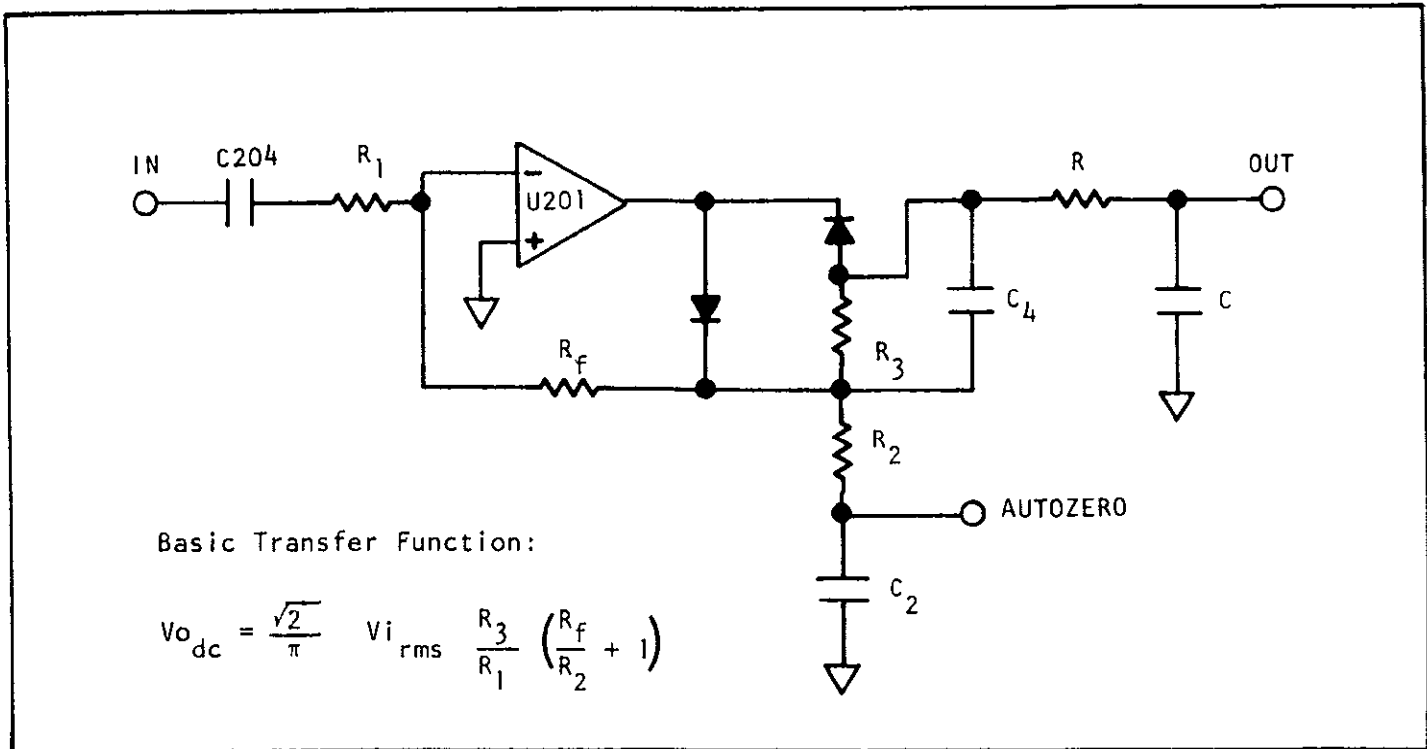

FIGURE 5-4. Simplified Schematic of AC/DC Converter.
1) The basic transfer function of the AC/DC converter is as shown on the simplified schematic (Figure 5-4). The resistor values were selected so the $1V_{ACrms} \rightarrow -1V_{DC}$. Above 3 volts, feedback resistance (R_f) is reduced to keep the output always less than $-3V_{DC}$. The dc output is a half-wave rectified sine wave, and the converter is average responding, calibrated to the rms value of a sine wave.